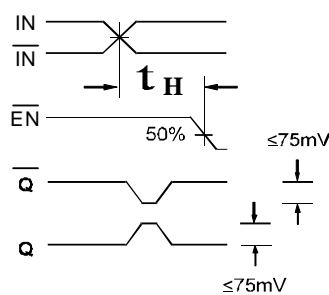

Figure 2. Hold Time
- The hold time is the minimum time that EN must remain asserted after a negative going IN or a positive going IN to prevent an output response greater than $\pm 75mV$ to that IN/ IN transition (see Figure 2).